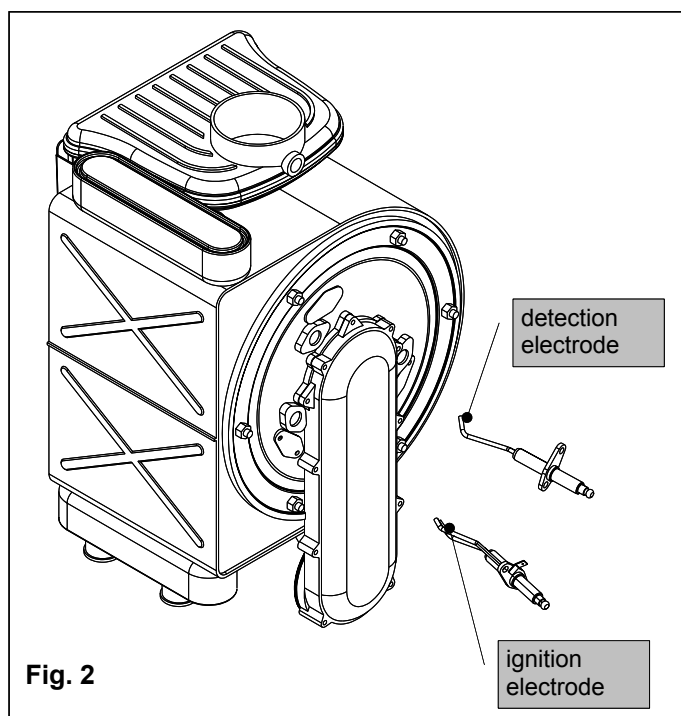

Fig. 2
**Ignition and/or flame detection electrodes (fig. 2);**